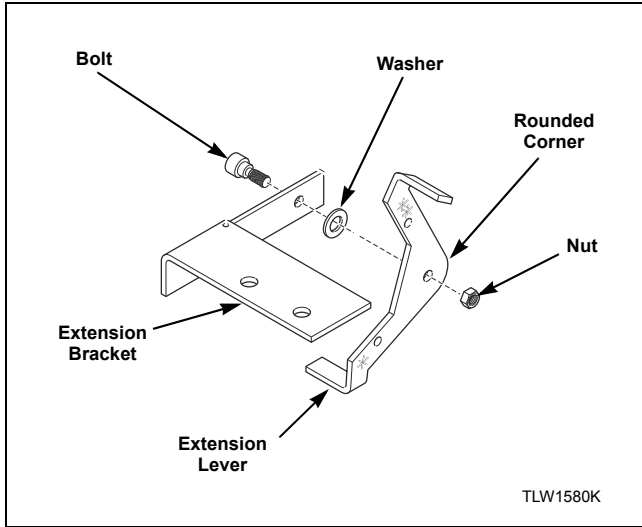

Figure 18
3. Install extension lever with rounded corner facing away from extension bracket using bolt, washer and nut. Refer to *Figure 18*.